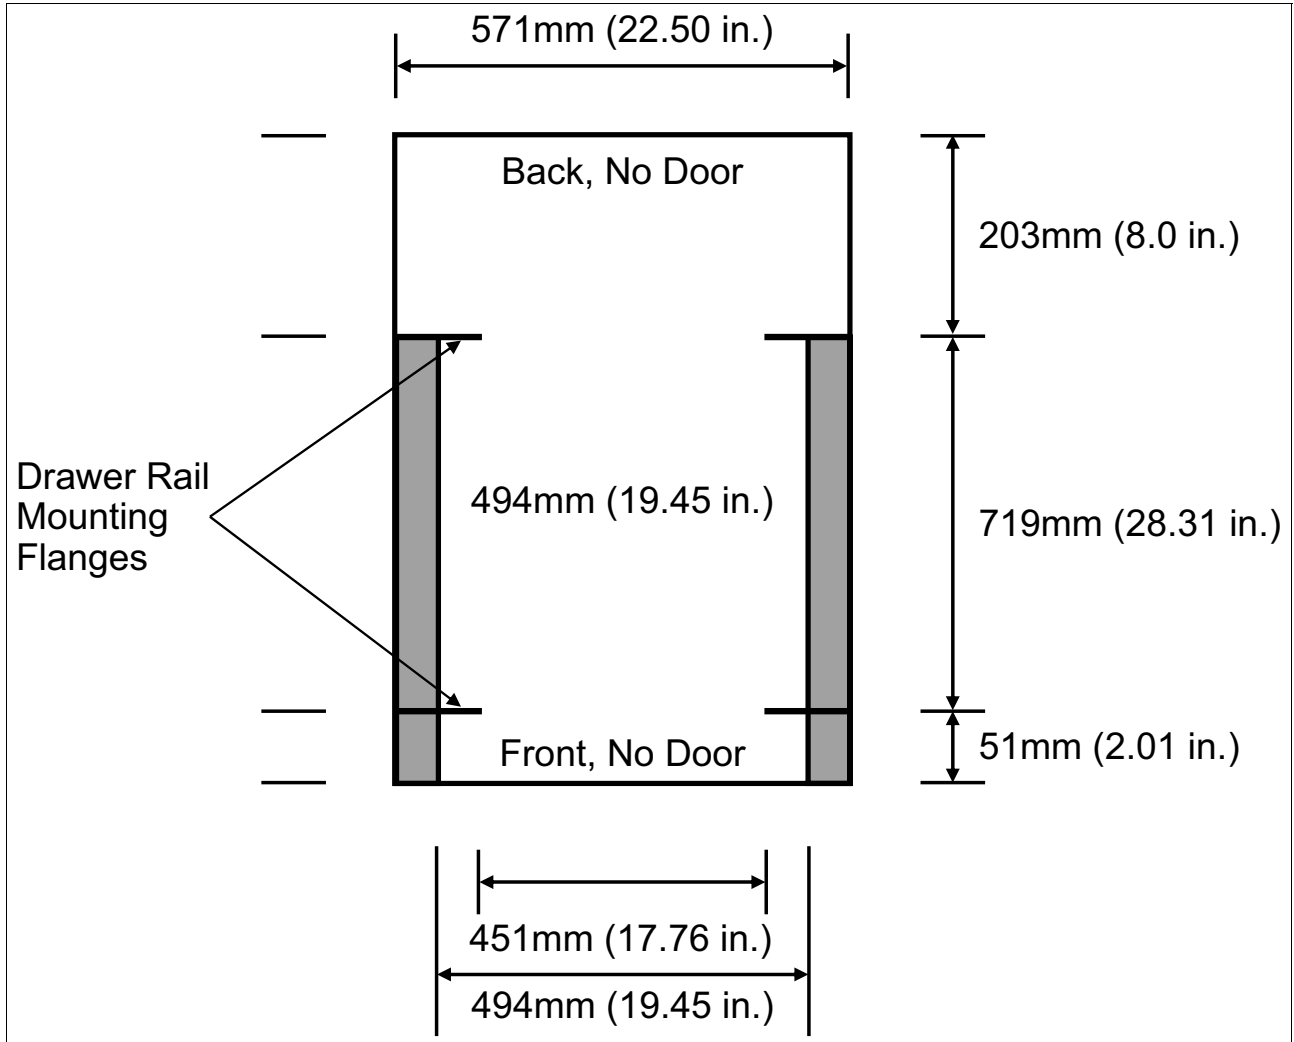

Figure A-4 Top view of rack specification dimensions (not specific to IBM)
- ▶ The front rack opening must be 451 mm wide ± 0.75 mm (17.75 in. ± 0.03 in.), and the rail-mounting holes must be 465 mm ± 0.8 mm (18.3 in. ± 0.03 in.) apart on-center (horizontal width between the vertical columns of holes on the two front-mounting flanges and on the two rear-mounting flanges). Figure A-4 is a top view that shows the specification dimensions.